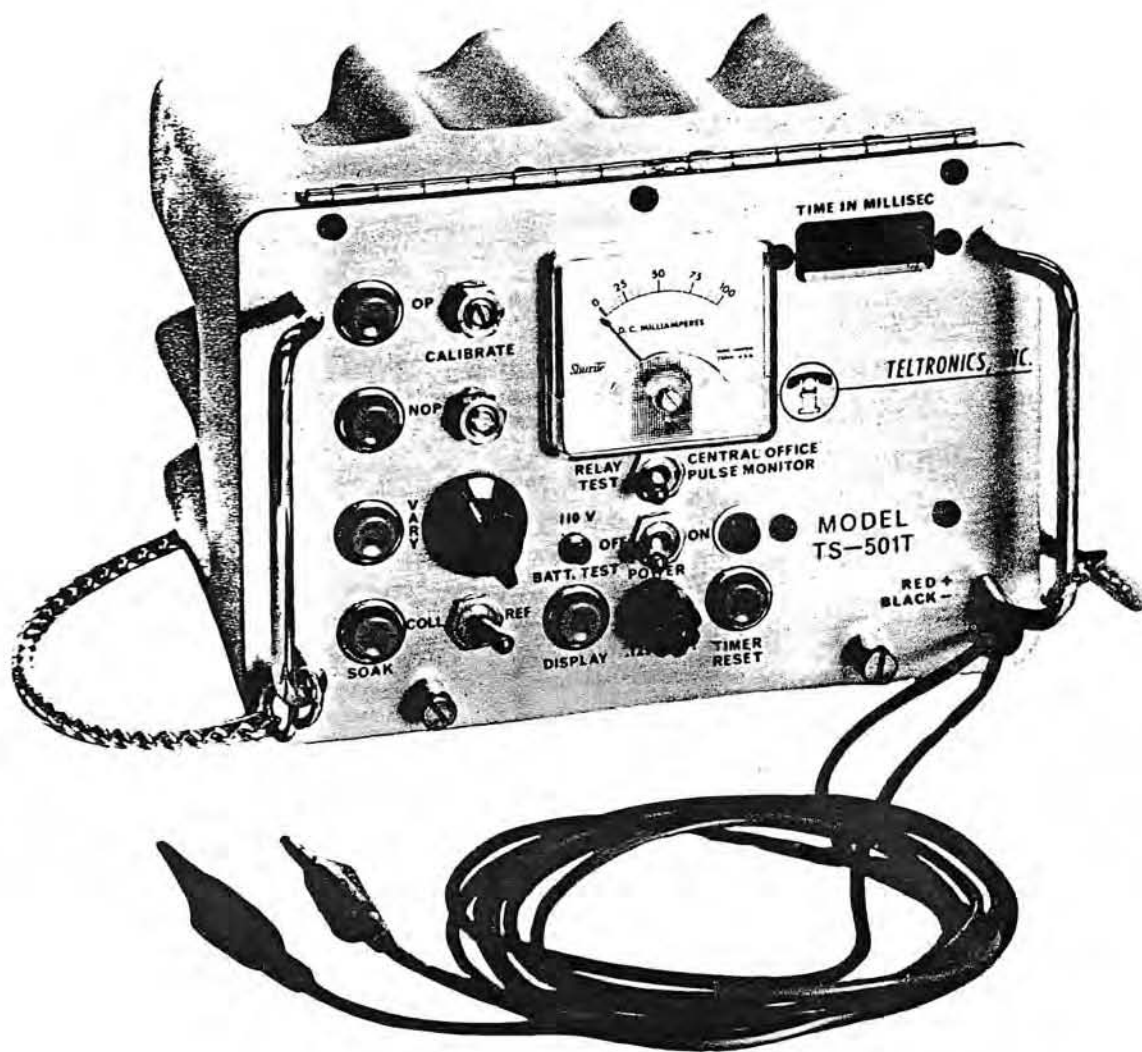

Figure 1. Coin Relay Test Set.
2.01 The TS-501T (Figure 1) is a totally portable, self-contained, battery-powered test set that is used for testing and calibrating single-coil or two-coil prepay coin telephone set coin relays. The test set energizes the relay for proper current requirements for soak, operate, and nonoperate in both the collect and refund modes. The relay energization time can be monitored during the operation cycle of the single-coil relay, and the elapsed time for each relay operation may be digitally displayed at the option of the user. The test set can also be used for monitoring central office command collect or refund current and pulse duration.